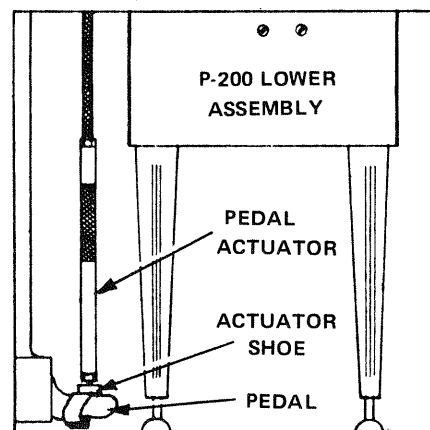

FIGURE 9-45 Pedal Actuator Shoe.
- A. If the Vorsetzer is attached to the piano, remove the Actuator Shoes from the Pedals, unlatch the Upper Cabinet and tilt it UP until it locks, then move the unit away from the piano. THIS MUST BE DONE SO THAT YOU CAN OBSERVE THE ACTUATORS AND THE POWER SUPPLY. (See FIGURE 9-45).
- G. Roll the unit up to the piano, center it on the Keyboard, screw the Centering Shaft into the Clamp Pad until it is snug, and attach the Pedal Actuator Shoes (See FIGURE 9-45 on page 146) to their respective Pedals. Unlatch the Upper Cabinet Assembly and GENTLY lower it until it locks in the down (play) position, then proceed to Point 'H'.
- H. Plug the Power Cord into the Ground Fault Circuit Interrupter and turn the Interlock and ① POWER SWITCHES ON. Press the ⑩ PLAY BUTTON and observe the operation of the SOFT Pedal Solenoid. If it operates properly, proceed to Point 'X' on page 152. If it does NOT operate properly, proceed to Point 'I' on page 148.